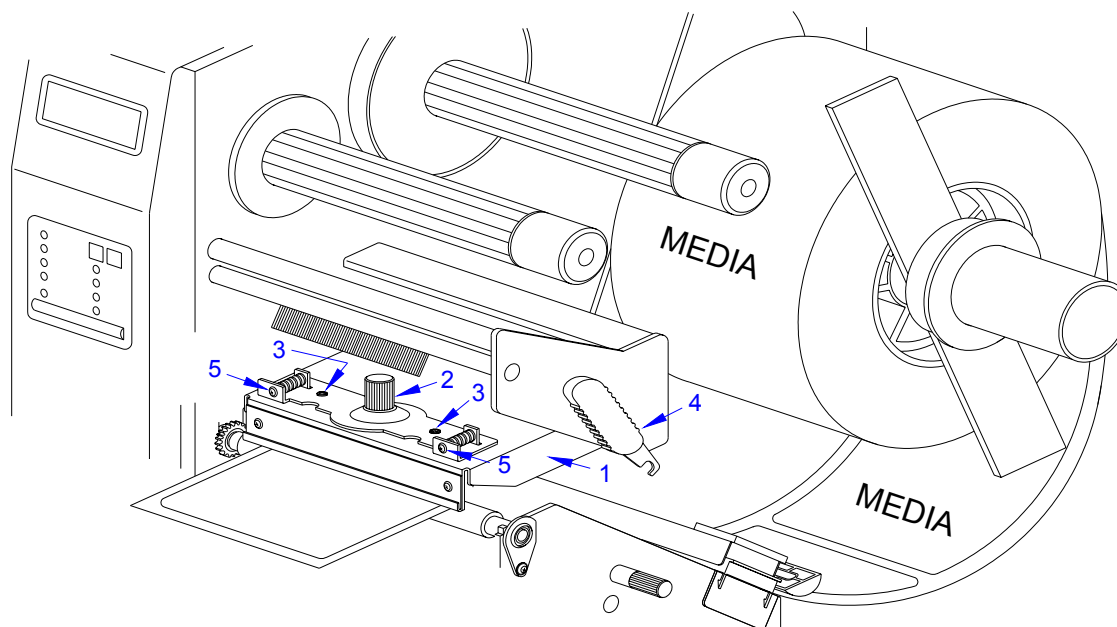

Figure 8-2, Print Head Alignment
- 1 Remove ribbon as applicable to gain access to the top side of print head (1, Figure 8-2).